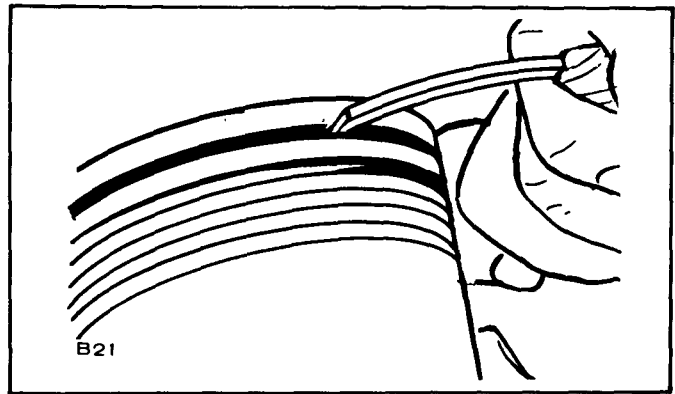

FIGURE 9. PISTON RING GROOVE CLEANING
**Cleaning:** Remove dirt and deposits from the piston surfaces with an approved cleaning solvent. Clean the piston ring grooves with a groove cleaner or the end of a piston ring filed to a sharp point (Figure 9). Care must be taken not to remove metal from the groove sides.